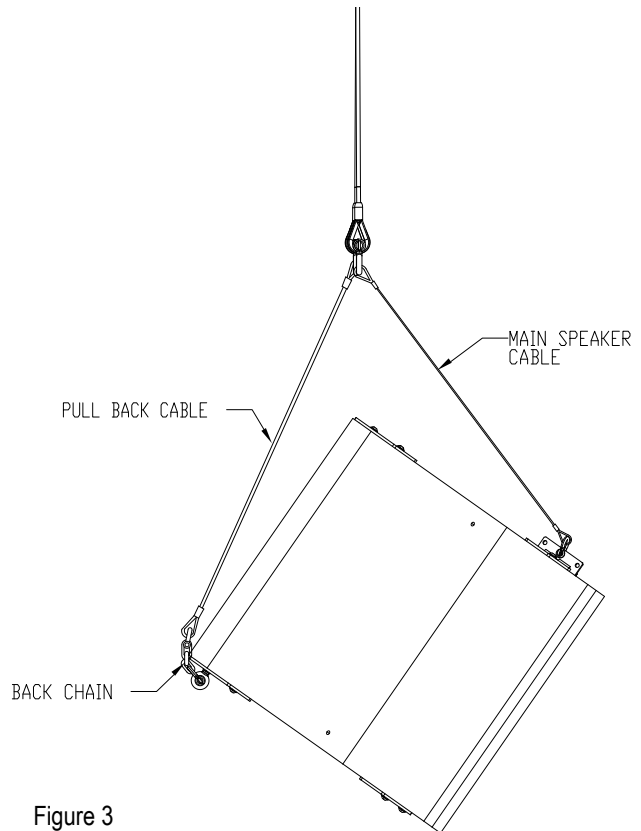

Figure 3
**For steep angle configuration install the eyebolts on the rigging points of the subwoofer (FRI181s) (Figure 3).**
*For steep angles the eyebolts should be install on the bottom rear end of the subwoofer (Figure 3).*
**For steep angles, use the eyebolts on the bottom rear end of the subwoofer (center speaker) as a pull back point to adjust the tilt angle of the cluster (Figure 3).**